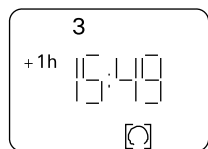

Figure 17.
3. A third push **releases the OFF function**. This function is denoted by the appearance of bracket symbols in the screen. This function cannot be removed other than by moving the function a step forward by means of the button. (Fig. 17)